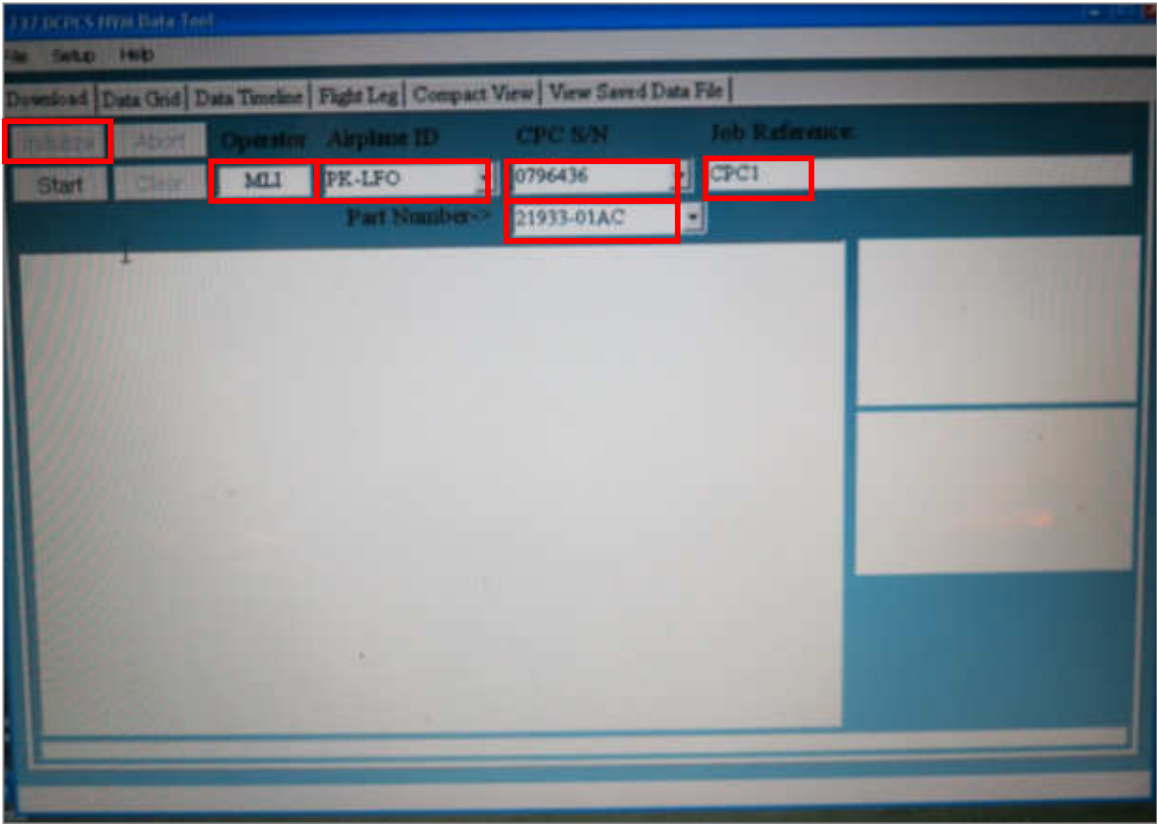

FIGURE 4: NVM DATA INITIALIZATION PROCESS
8.	Write and put down the operator, airplane ID, CPC Part Number, CPC Serial Number and Job Reference tab on Digital Cabin Pressure Controller. (Figure 4)
9.	Resets and initializes the ARINC 429 interface device. A message box will appear indicating whether or not the ARINC 429 interface. (Figure 4)